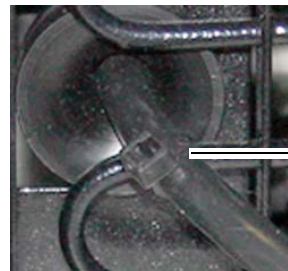

**Figure 20: Back cover and insulation panel**
5. Reinstall the coil shield, back cover, and insulation panel (Figure 20). When installing the foam insulation panel, take precautions not to damage the foam around the tubing (see inset Figure 20).